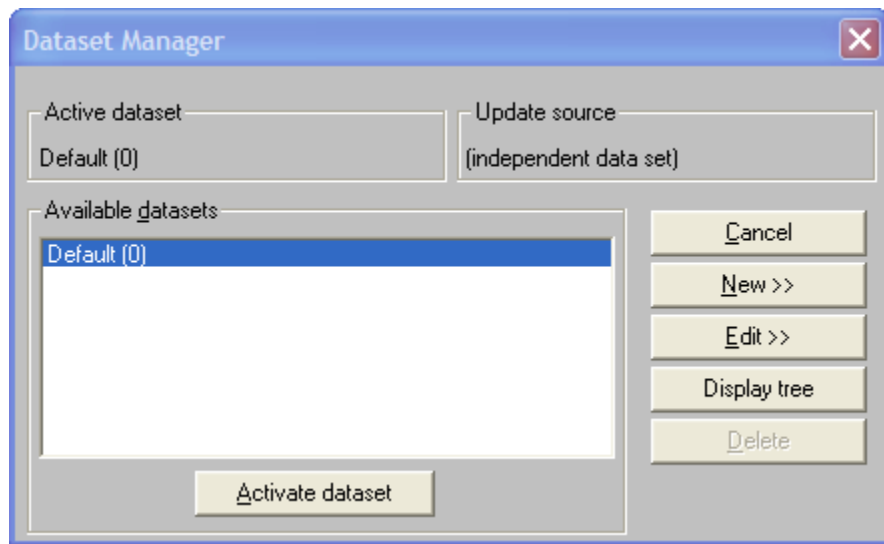

Figure 4.11: Dataset manager
1. From the **Project** menu, choose the command **Edit Datasets**. PSE opens the window shown in figure 4.11.